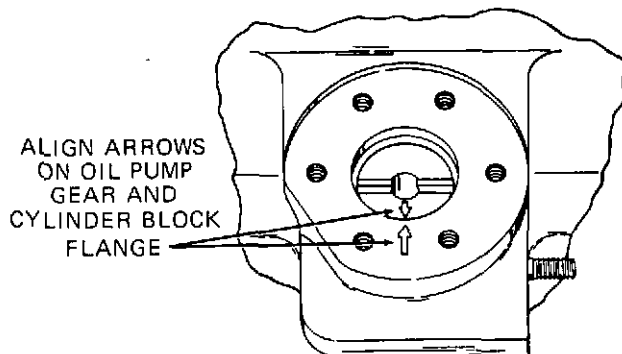

Figure 5-6. Oil Pump Alignment at Installation
5. Install the assembled oil pump in the cylinder block so that the teeth on the drive gear mesh with the mating teeth cut into the camshaft. When properly installed, the arrow on the top of the drive gear must be aligned with the arrow stamped on the distributor mounting pad, as shown in figure 5-6. No alignment is necessary for magneto ignition.